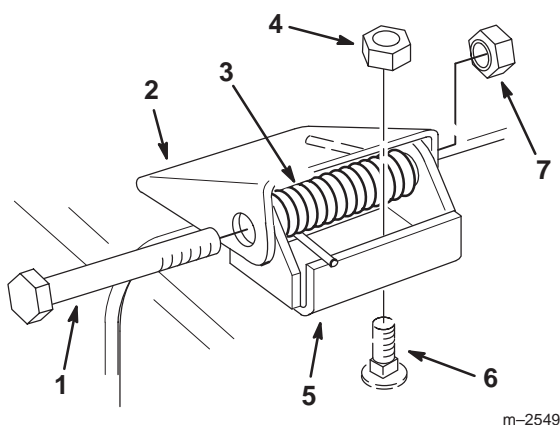

Figure 26
1. Remove the locknuts, bolts and springs holding the deflector mounts to the pivot brackets (Fig. 26).
2. If the pivot brackets need to be replaced, remove the carriage bolts and cone locknuts holding the old brackets to the top of the discharge opening, then install the replacement pivot brackets. Make sure the carriage bolt heads are on the inside of the cutting unit (Fig. 26).
3. Install the deflector mounts onto the pivot brackets with the bolts, springs and locknuts. Make sure the straight ends of the springs are positioned between the deflector mounts and the grass deflector (Fig. 26).
4. Tighten the locknuts until they contact the pivot brackets (Fig. 26).